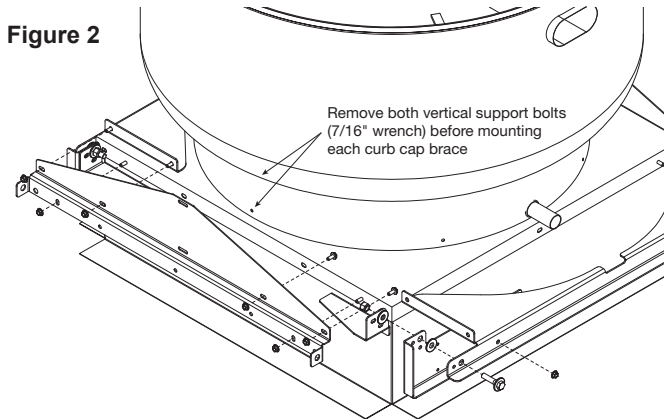

Figure 2
3. Attach curb cap braces by removing two bolts from the fans vertical supports. Center brace over curb cap and attach with two vertical support bolts and along the curb cap brace, loosely install two flange nuts on the weld studs installed on Step 1. Repeat this step for other side of fan. See Figure 2.
- Insert four 5/16"-18 X 3/4" L hex bolts into the holes on the upward flanges of the curb cap hinge and into the slots of the curb cap hinge and fasten flange nuts securely onto them. Repeat this step on the other side of the fan. These fasteners can be seen in Figure 2. This step does not pertain to kit 56JN73.